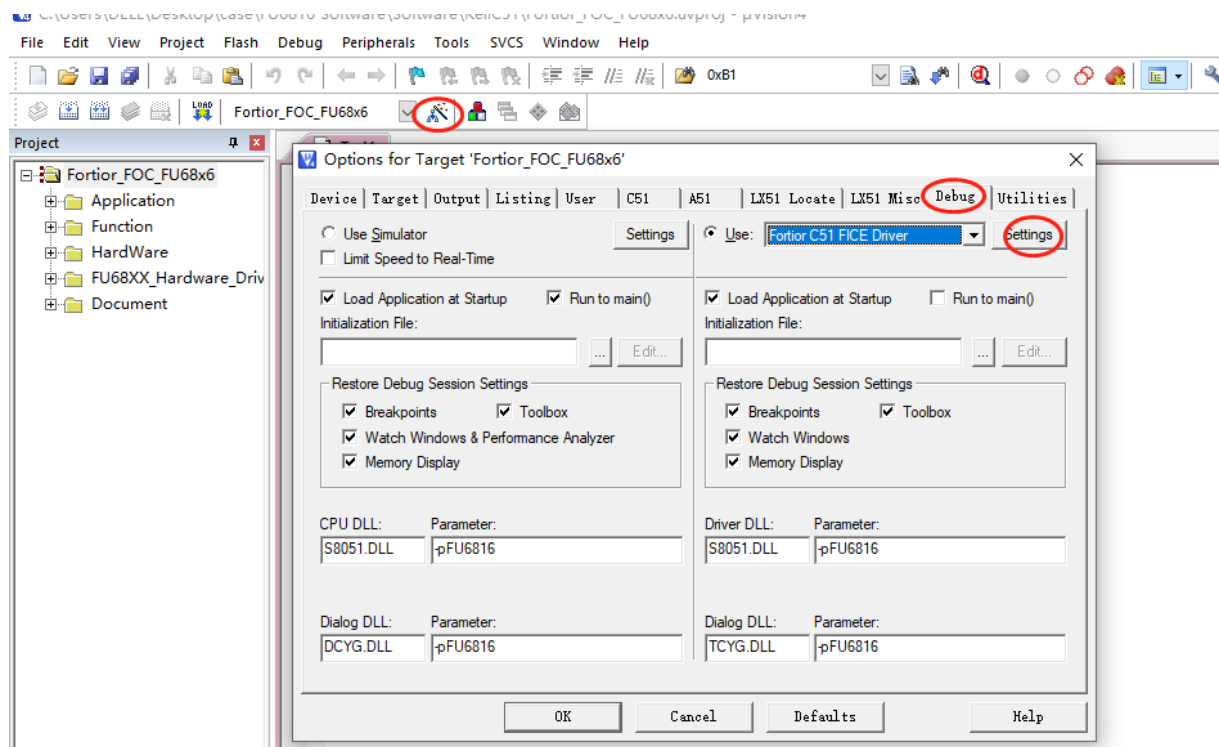

Figure 36-1 Code Protection Configurations
1. Start 8051 IDE, enter Target Options and select Debug tab. As shown in Figure 36-1, click Settings to proceed with the setting;